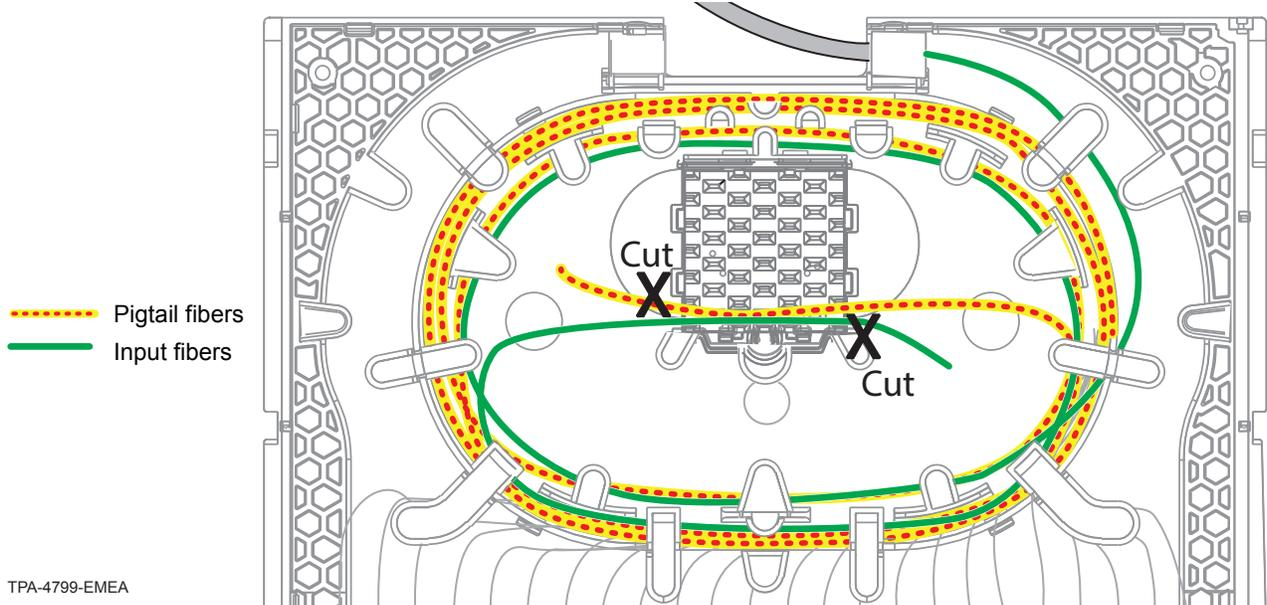

Figure 39
**Step 6:** Reroute last loop of the pigtail fiber to the outer path before bringing it back to the splice organizer. Cut the fibers at the outer edge of the splice organizer (Figure 39).